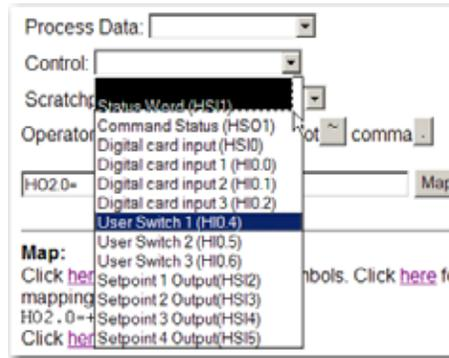

FIG. 271 MAPPING INPUTS ON THE MAIN BOARD
- If you want to Map the inputs on the Main Board you will need to select User Switches 1, 2 or 3. (See Fig. 271)